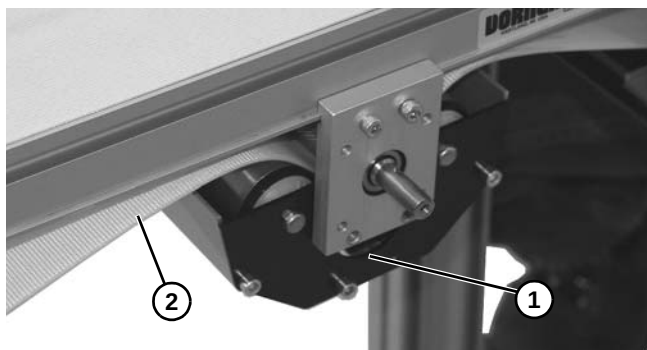

Figure 61
4. Lower and remove mid drive module (**Figure 61, item 1**) from belt (**Figure 61, item 2**).